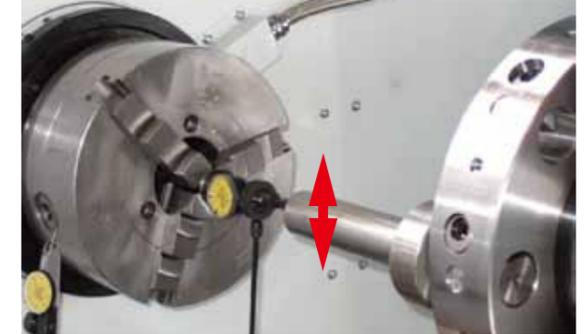

Fig.20
13) Using the coaxial indicator to measure the offset of test bar in the vertical plane (see Fig. 20). Check the height difference between spindle nose center and test bar center. The tolerance should be 0.00mm~+0.03mm for **TB. & Hyd. turret & E4** toolpost. The tolerance should be 0.00mm~+0.01mm for **power turret + C axis**.